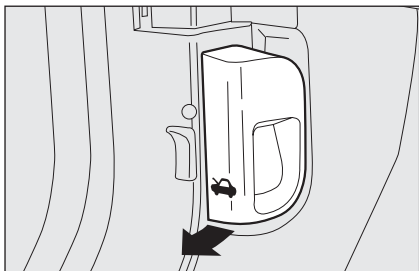

fig. 94
- pull lever **fig. 94** in the direction of the arrow;